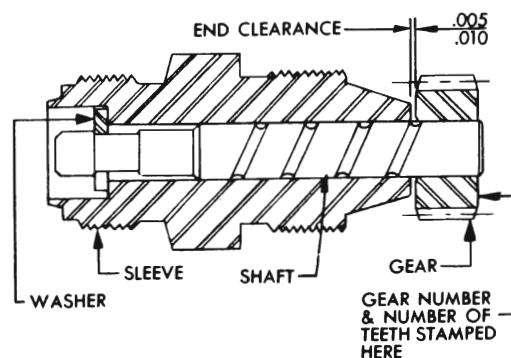

Figure 4-33—Speedometer Driven Gear Assembly
The speedometer driven gear is furnished only as an assembly consisting of sleeve, shaft, retaining washer and gear. See figure 4-33. The number of teeth and a part number are stamped on the side of gear; however, the part number is that of the gear only and is not the number of the driven gear assembly as listed in the Master Parts List.
12. Insert hardwood club (fig. 4-33) in universal joint and while moving torque ball up, down, and sideways tighten retainer bolts evenly. **CAUTION:** *It is absolutely necessary to continually move torque ball while tightening bolts in order to properly center the ball and retainers.* If torque ball binds as bolts are tightened, tap outer retainer lightly at several points, using rawhide or other soft mallet. This will usually relieve the binding condition.